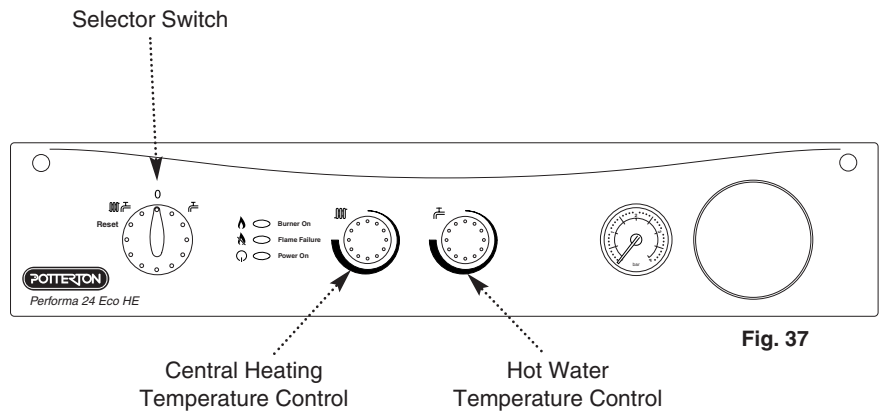

Fig. 37
2. Set the hot water and central heating temperature controls to maximum and the selector switch to the OFF position (Fig. 37).
6. Turn the selector switch to the Central Heating and Domestic Hot Water position (𠄎𠄎). The power ON light (𠄎) will illuminate (Fig. 37).